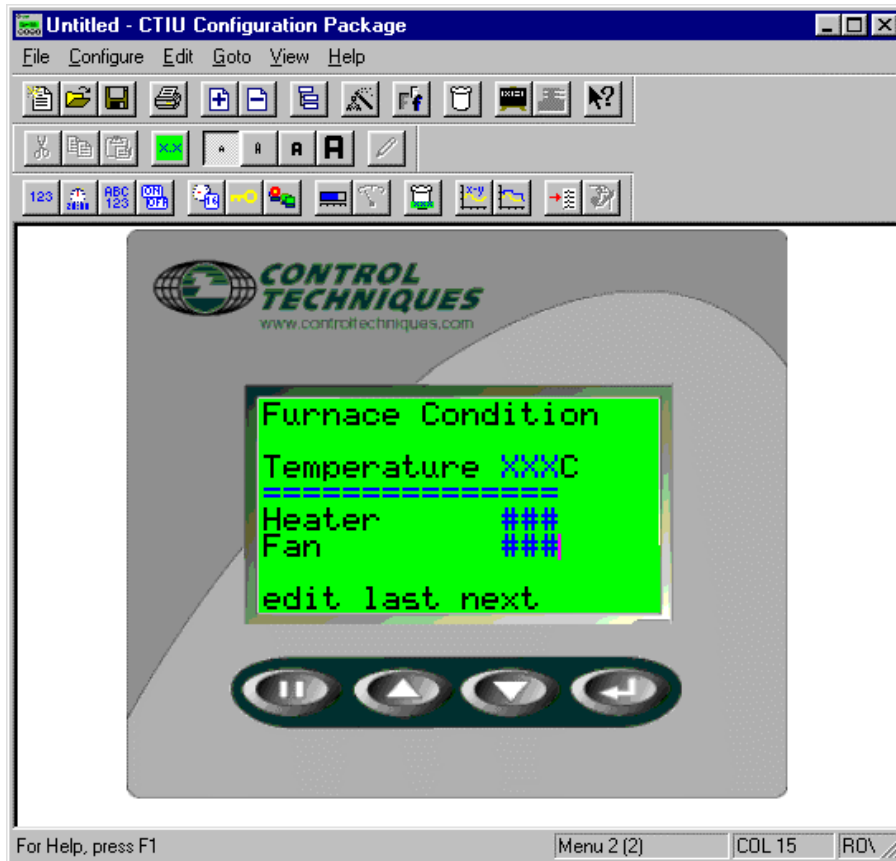

Figure 12.3 – Menu Page
9. After embedding the data, the screen looks like Figure 12.3.